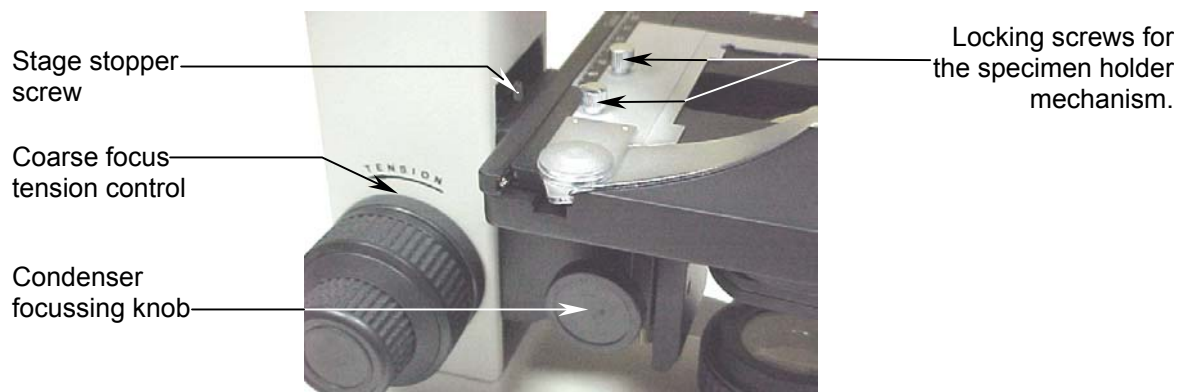
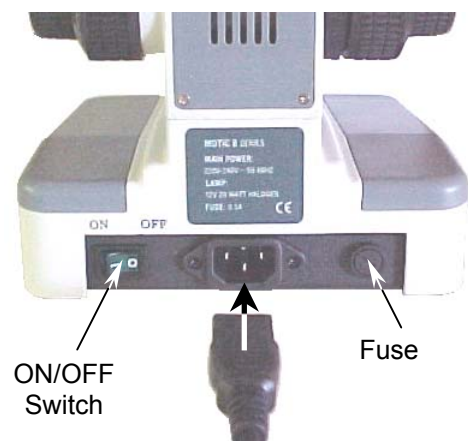

Fig. 1
Fig. 4
A. Condenser (10):
- a. Turn the coarse focus knob (16) until the stage (8) is in its highest position.
- b. Turn the focussing knob on the condenser (Fig.1), until the condenser holder reaches its lowest position.
- B. Specimen holder mechanism (6): Turn the coarse focus knob (16) until the stage (8) reaches its lowest position. Unscrew the two locking screws (Fig. 1) of the specimen holder mechanism. Place the mechanism on the stage with the moveable finger pointing upwards (4) so the holes on the mechanism line up with the locking screws. Tighten locking screws firmly.
- C. Objectives (5): Ensure that the revolving nosepiece (3) is well positioned: i.e. that it does not revolve freely, but rotates until a “click” is heard, showing that it is secure in place. Place objectives, starting with the lowest magnification 4X in any of the holes in the revolving nosepiece. Next, place that of the second lowest magnification 10X in the hole alongside, and so forth: the 40X objective, and finally the 100X objective can be placed.
- D. Head (12): Loosen the knurled locking screw on the head (14) and remove the protective cover on the collar where the head is placed. Insert the head, until it is well supported on the stand (15). Although the head can be placed in any position, we recommend for your comfort that the eyepiece tubes (13) face forward on the microscope. Firmly re-tighten the knurled locking screw.
- E. Eyepieces (1): Remove the protective covers on the eyepiece tubes (13). Gently place the eyepieces in the tubes without touching the lens surface.
- F. Filter: Place the blue filter on the illuminator (19). Make sure that the filter is well positioned.
- G. Power cable: Insert the power cable in the connector situated in the lower back part of the microscope (Fig.4).
1. Before using the microscope, adjust the light intensity control (20) to minimum position. This should be repeated every time the microscope is switched on or off to prolong the use of the bulb.
2. Switch to position ON. (Fig. 4)
4. Light intensity must be adjusted according to the objective used (5), or the type of preparation to be observed.
1. Focus on a sample with the 10X objective (5)..
2. Close the field diaphragm (11) turning the ring situated on the illuminator (19), until it appears in the field of vision.
3. Next, focus the field diaphragm, moving the condenser (10) using its focusing control (Fig. 1). Do not use the coarse (16) or the fine focus control knobs (17).